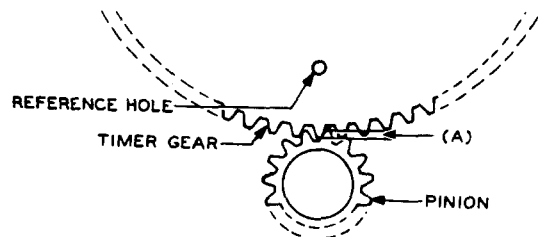

Fig. 4 - Engagement of Timer Gear and Pinion
- (c) Fig. 4(A) - With the driving shaft motor stopped and with the timer electrically operated, the teeth of the timer gear shall engage with the pinion in all positions of the gear for